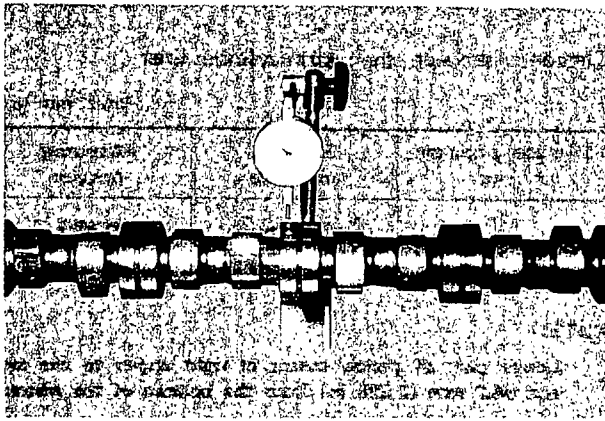

Fig. 3-3-12 Measuring camshaft bent
1. Check cam lobe and journal for damage and wear. Bent of cam shaft support: fix both ends of camshaft Fig. 3-3-12 to V-block, place dial gauge on the center journal, and turn camshaft checking for bent. If bent is beyond the limit, replace shaft, or correct it with at press.